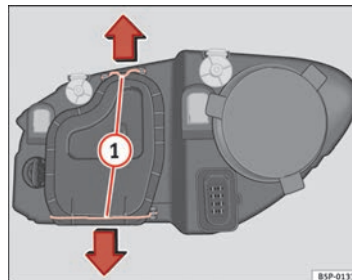

Fig. 180 Dipped beam headlights
- Remove the loops ⇒ fig. 180 **1** in the direction of the arrow and remove the cover. ►